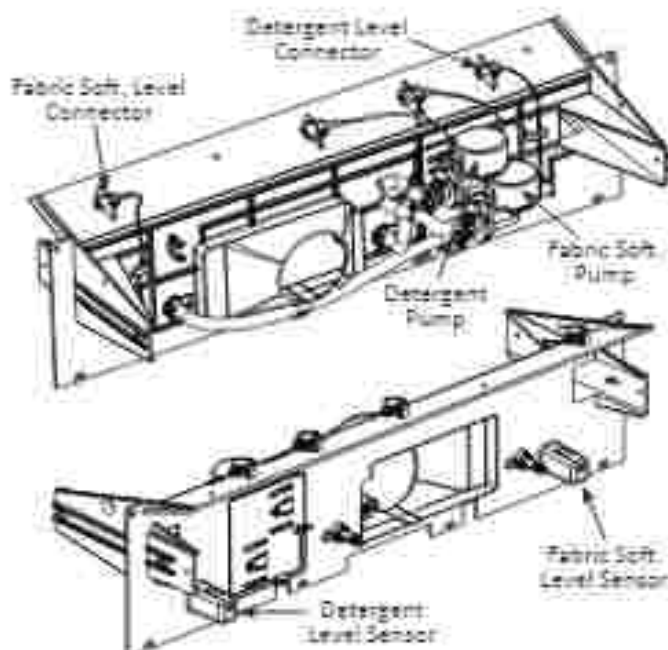

Figure 3 - Drawer Bulk Dispenser Components
7. While watching the ohmmeter, place a magnet above the appropriate sensor cavity (see Figure 3). The magnet should close the sensor (less than 5 ohms).